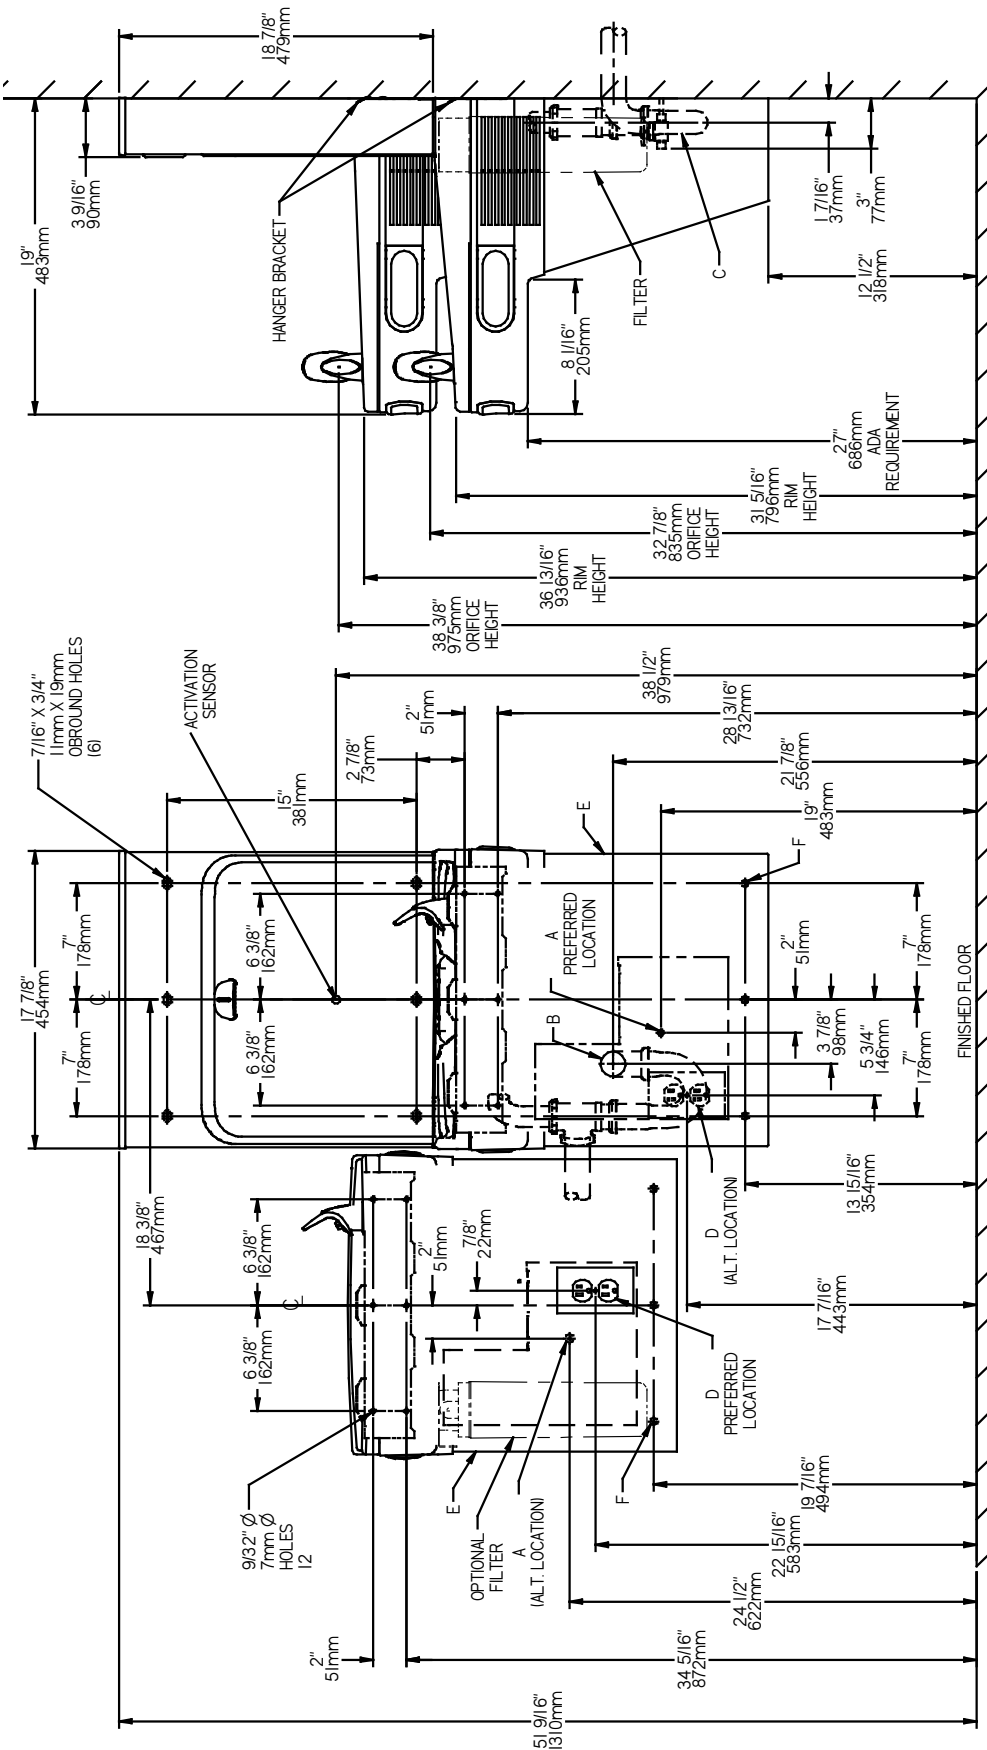

Fig. 2
- 1) Remove hanger brackets fastened to back of cooler by removing one (1) screw.
- 2) Mount the hanger brackets as shown in Figures 2, 3, 4 or 5.
- 3) Hang the cooler on the hanger bracket. Be certain the hanger bracket is engaged properly in the slots on the cooler back as shown in Figures 2, 3, 4 or 5.
- 4) Remove the four (4) screws holding the lower front panel at the bottom of cooler. Remove the front panel by pulling straight down and set aside.